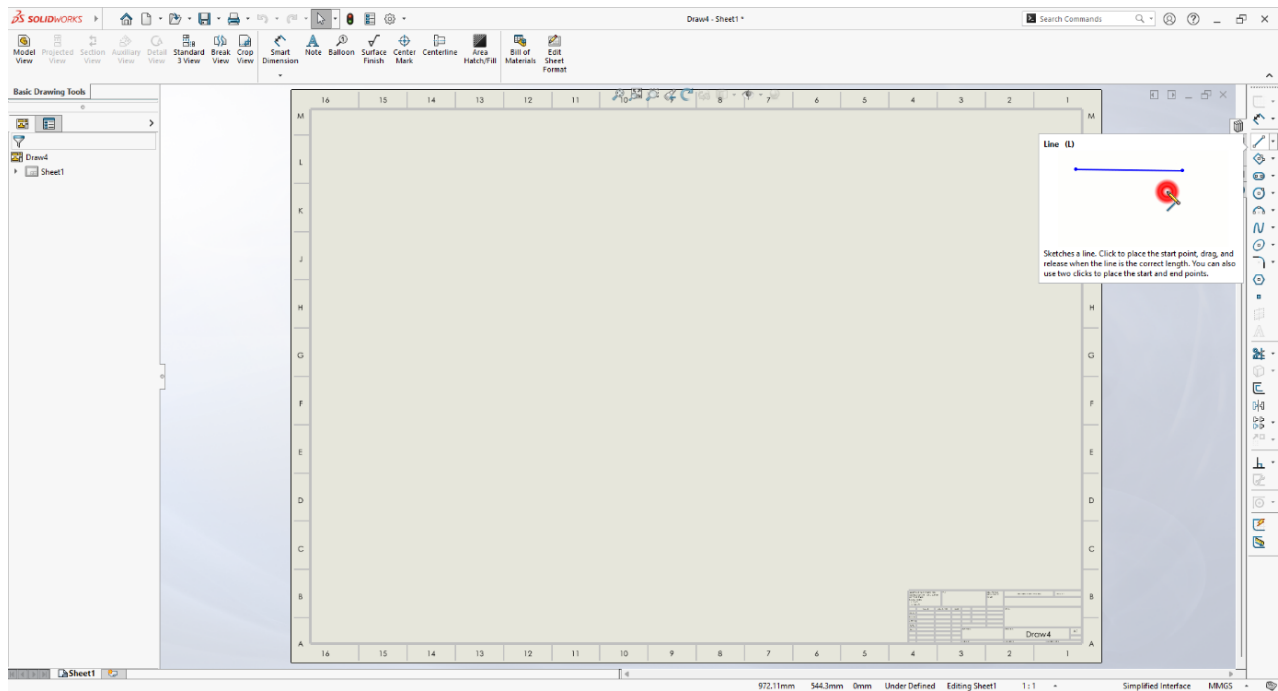

Figure 2.7: Location of Line Command
1. **Line Command:** helps to draw horizontal, vertical, or inclined lines (Figure 2.7).